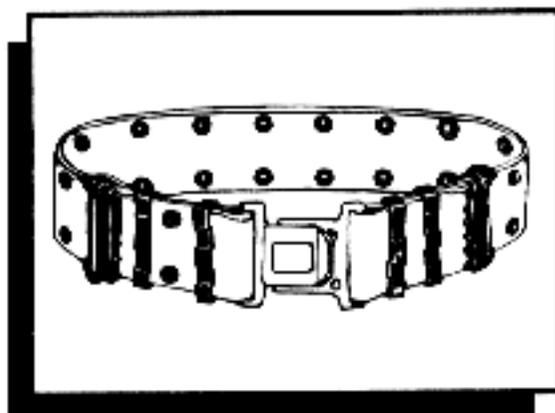

Figure 4-2. Individual equipment belt.
**Individual Equipment Belt.** Carry the ammunition cases, intrenching tool carrier, and the canteen cover on the individual equipment belt (figure 4-2). The belt comes in two sizes—medium for persons whose bare waist measures 30 inches or less; large for persons whose bare waist measures more than 30 inches.